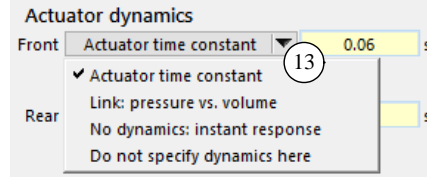

Figure 7. Options for setting actuator dynamics.
- ⑬ **Actuator Dynamics.** A drop-down control provides four options for specifying the transient behavior of the actuator (Figure 7).